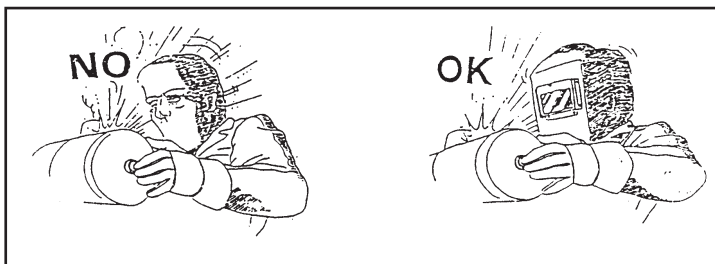

Figure 2
**Warning: Never stare at an electric arc without suitable eye protection (Fig. 2).**